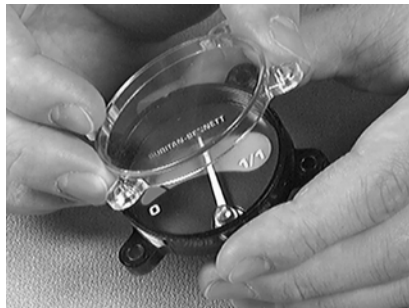

Figure 5-7
4. Pry the lens cap **3** away from the base (Figure 5-7).